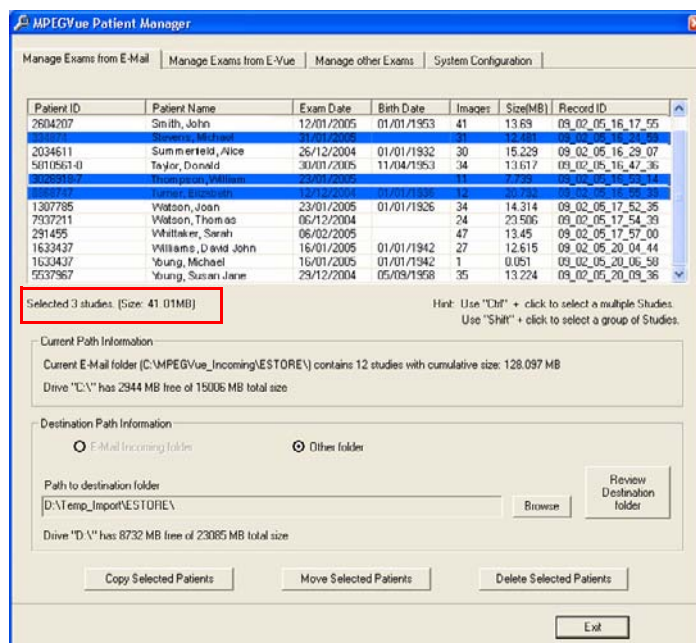

Figure 3-137 Exams Selected
- b.) Select the required exam or exams, as shown in Figure 3-137.
The currently-selected exams are now highlighted in the list and, as shown in Figure 3-137, the cumulative size of the 3 studies is displayed below.